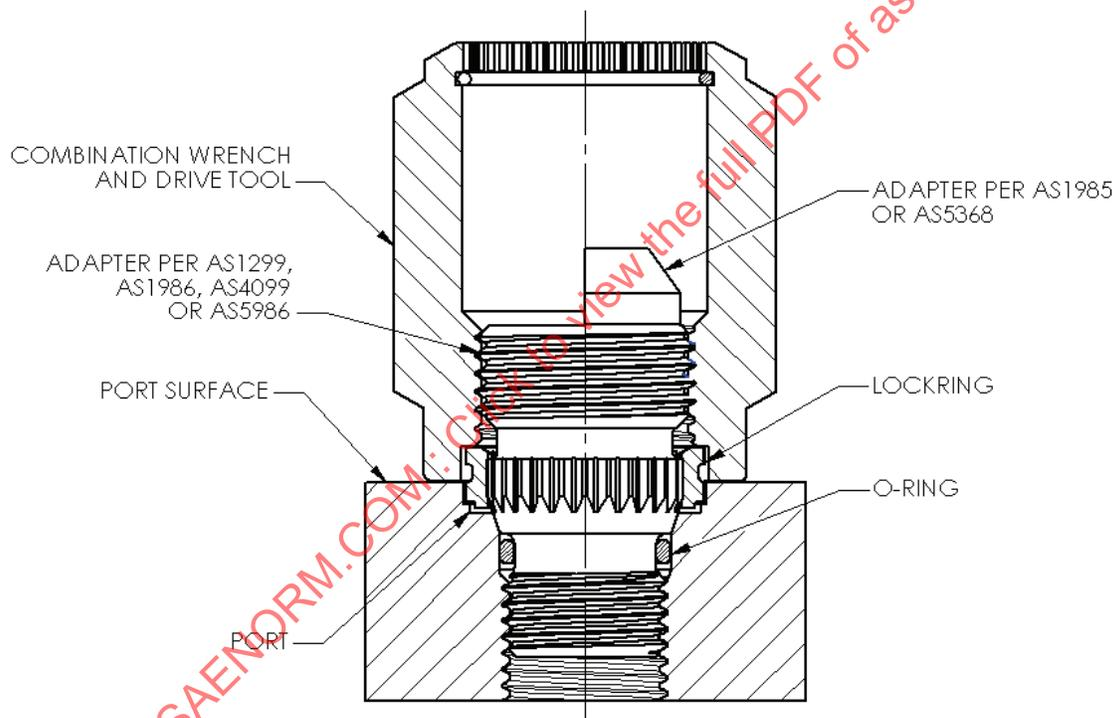

FIGURE 4 - LOCKRING INSTALLATION
5.2.5 While the zinc chromate (or other primer) applied per 5.2.4 is still wet, install the locking by rotating the threaded end of the combination wrench and drive tool clockwise onto the adapter assembly until it touches the locking. Using an open end or socket wrench on the tool, turn the tool in a clockwise direction until it bottoms on the port surface as shown in Figure 4. Visually observe that the tool has bottomed.